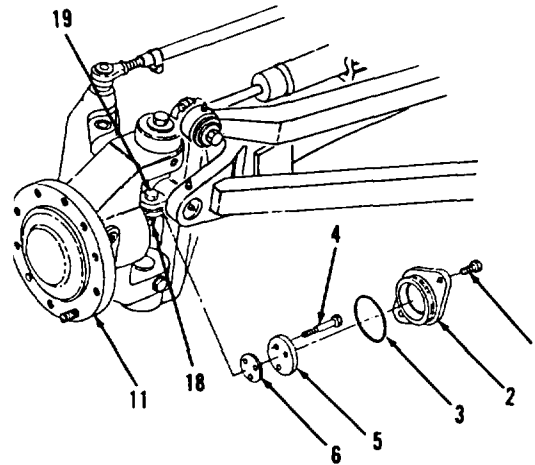

Figure 5-84.
26. Tighten bolt (18) and nut (19, Figure 5-84).
27. Install shim(s) (6), retainer (5) and three bolts (4). Tighten bolts (4) to 96 ft-lb torque.
28. Install new preformed packing (3).
29. Install cover (2) and two bolts (1).